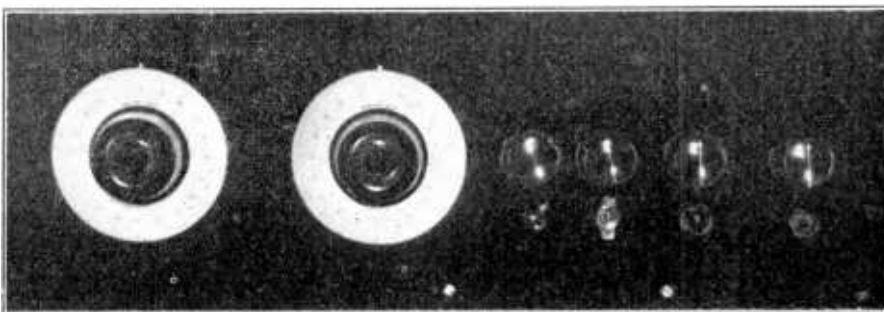

FIG. 537
(1)—The panel layout is shown in Fig. 537. A seven by twenty-four inch panel is used. The condensers are placed at left. The four rheostats are placed in a row. Underneath the first rheostat, which is in the radio frequency circuit, the filament switch is placed. The inductance switch for the primary coil in the antenna circuit, is placed underneath the detector filament rheostat. The first double circuit jack is next. The single circuit jack is underneath the last audio filament rheostat.